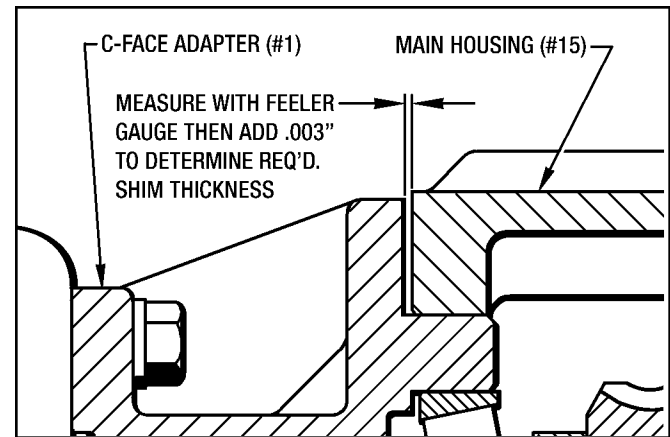

Figure 9.10 - Measuring For Shim Thickness
1. Bolt the C-Face Adapter to the Main Housing using (4) Washers (#170) and (4) Screws (#141).
2. Snug bolts up evenly. Using feeler gages measure the gap between C-Face Adapter and Main Housing. Add .003" to the Feeler Gauge Dimension to get the required Shim Thickness. (See Figure 9.10)